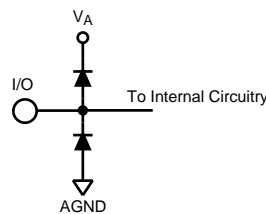

Figure 2.
- (1) The inputs are protected as shown below. Input voltage magnitudes above V_A or below GND will not damage this device, provided current is limited per Note 4. However, errors in the A/D conversion can occur if the input goes above 2.6V or below GND as described in the Operating Ratings section. See Figure 2.
- (2) With a full scale differential input of $2V_{P-P}$, the 12-bit LSB is $488\ \mu\text{V}$.
- (3) Typical figures are at $T_A = 25^\circ\text{C}$ and represent most likely parametric norms at the time of product characterization. The typical specifications are not ensured.
- (4) The input capacitance is the sum of the package/pin capacitance and the sample and hold circuit capacitance.
- (2) With a full scale differential input of $2V_{P-P}$, the 12-bit LSB is $488\text{ }\mu\text{V}$.
- (4) This parameter is specified in units of dBFS - indicating the value that would be attained with a full-scale input signal.
- The inputs are protected as shown below. Input voltage magnitudes above V_A or below GND will not damage this device, provided current is limited per Note 4. However, errors in the A/D conversion can occur if the input goes above 2.6V or below GND as described in the Operating Ratings section. See Figure 2.
- (2) With a full scale differential input of $2V_{P-P}$, the 12-bit LSB is 488 μV .
- (4) This parameter is ensured by design and/or characterization and is not tested in production.